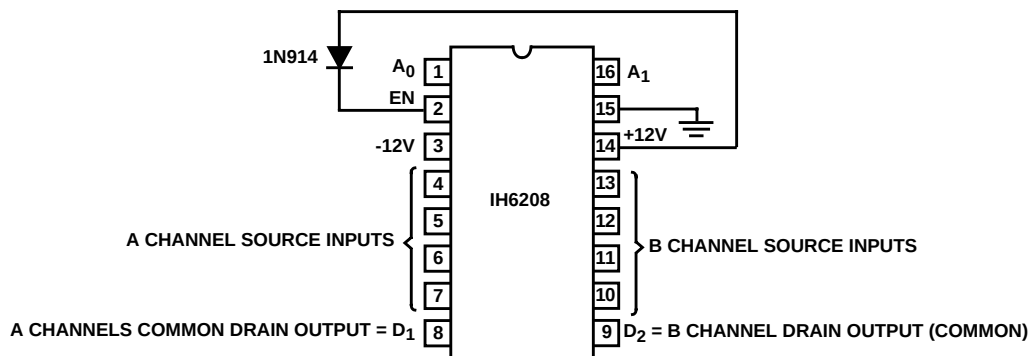

FIGURE 6. IH6208 CONNECTION DIAGRAM FOR LESS THAN $\pm 15V$ SUPPLY OPERATION
Caution must be taken to ensure that the enable (EN) voltage is at least 0.7V below $V+$ at all times. If this is not done, the Address input strobing levels will not function properly. This may be achieved quite simply by connecting EN (pin 2) to $V+$ (pin 14) via a silicon diode as shown in Figure 6. When using this type of configuration, a further requirement must be met: the strobe levels of A0 and A1 must be within 2.5V of the EN voltage in order to define a binary "1" state. For the case shown in Figure 6 the EN voltage is 11.3V which means that logic high at A0 and A1 is +8.8V (logic low continues to be 0.8V). In this configuration the IH6208 cannot be driven by TTL (+5V) or CMOS (+5V) logic. It can be driven by TTL open collector logic or CMOS logic with +12V supplies.